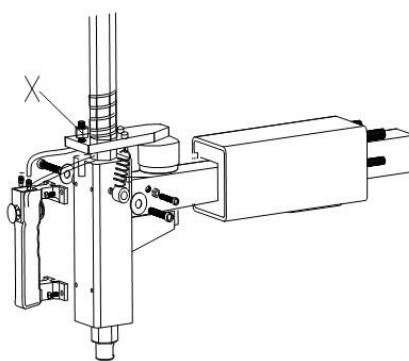
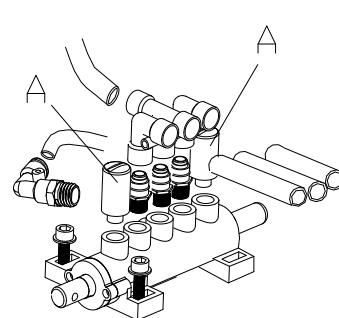

Fig 20
Fig 21
**Note:** If Vertical Arm not be locked or not meet the requirement that 2-3mm from the bottom of Mounting head/demounting head to rim, please adjust Hexagonal Locking Plate, refer to Fig 20 and adjust the (X).
2. Loosen the valve mufflers (A) which belong to Jaws open and close Pedal and Bead Breaker Pedal;
3. Clean the mufflers with compressed air, please replace it referring to the spare parts list if it is damaged. **(Fig 21)**